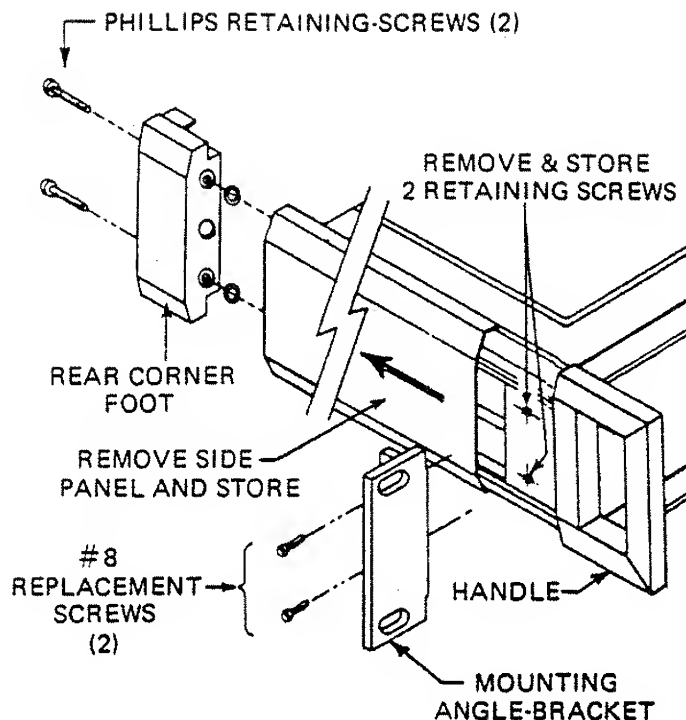

Figure 2.1 - Fixed-Mount Angle-Bracket Detail
2.5.2.1 Refer to Figure 2.1 for this procedure. The installation package includes:
- a. Flange-Mount angle-brackets (2)
- b. Front corner-inserts for non-handle installations (2)
- c. Flathead #8-32 x 1/2 screws (4)
- f. Triple-rail slide-mount assemblies (2)
- g. Self-Anchoring #10-32 tinnerman nuts (12)
- h. Phillips panhead #10-32 x 1/2 screws (8)
- j. Phillips panhead self-tapping #8-32 x 5/16 screws (8)
- k. Phillips flathead #8-32 x 1/2 screws (4)
- l. Phillips panhead #10-32 x 3/4 screws (4)
- m. Alignment #8 x 1/16 (spacers) washers (2)
- n. Cover retaining-brackets (2)
2.5.3.2 Prepare the instrument for installing the alignment blocks in the side channels of the unit. Refer to Figures 2.1 and 2.2 and complete the following steps: